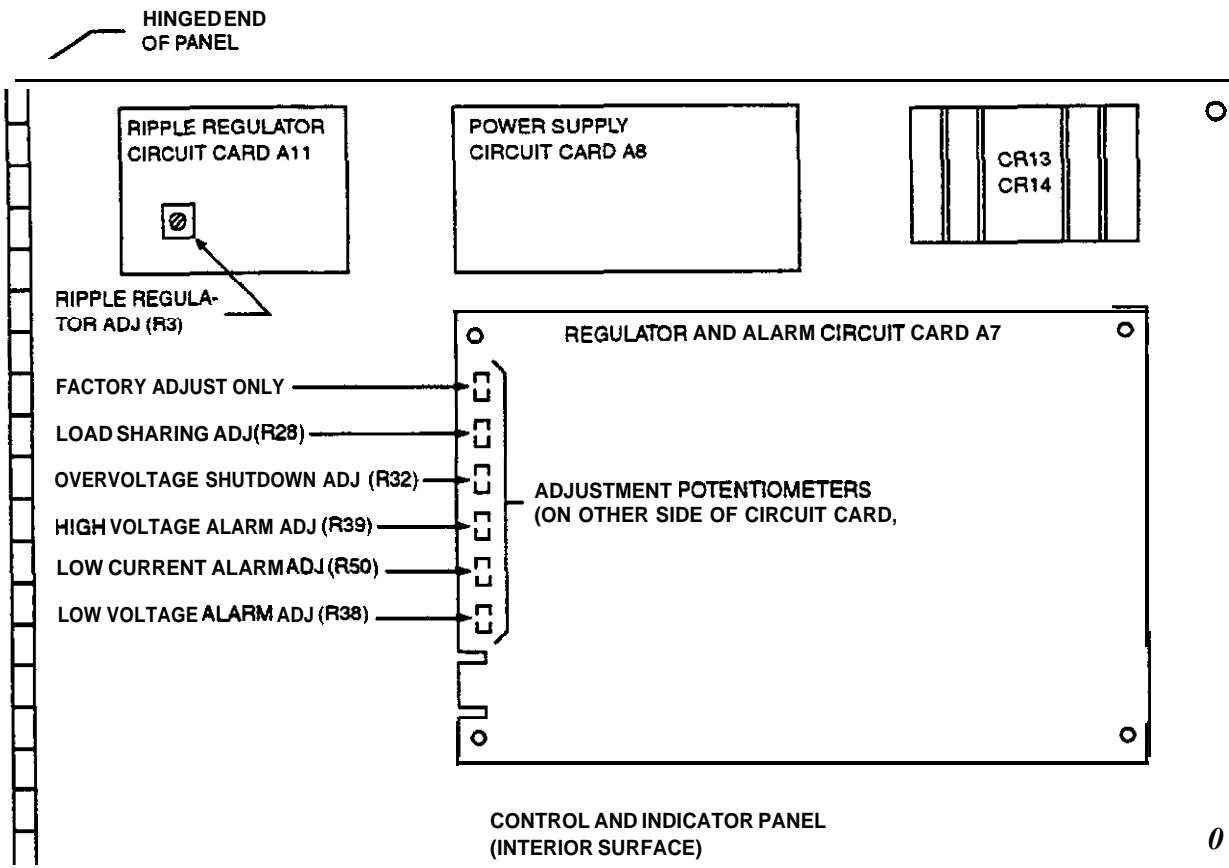

Figure 5-1. Regulator and Alarm Circuit Card Adjustment Potentiometer Locations
- d) Adjust potentiometer R38 fully counterclockwise. Refer to Figure 5-1 for location.
- g) Adjust potentiometer R50 fully counterclockwise. Refer to Figure 5-1 for location.